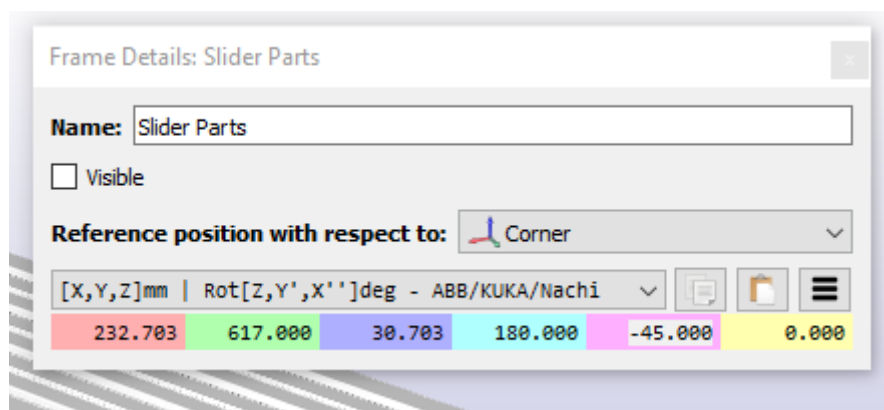
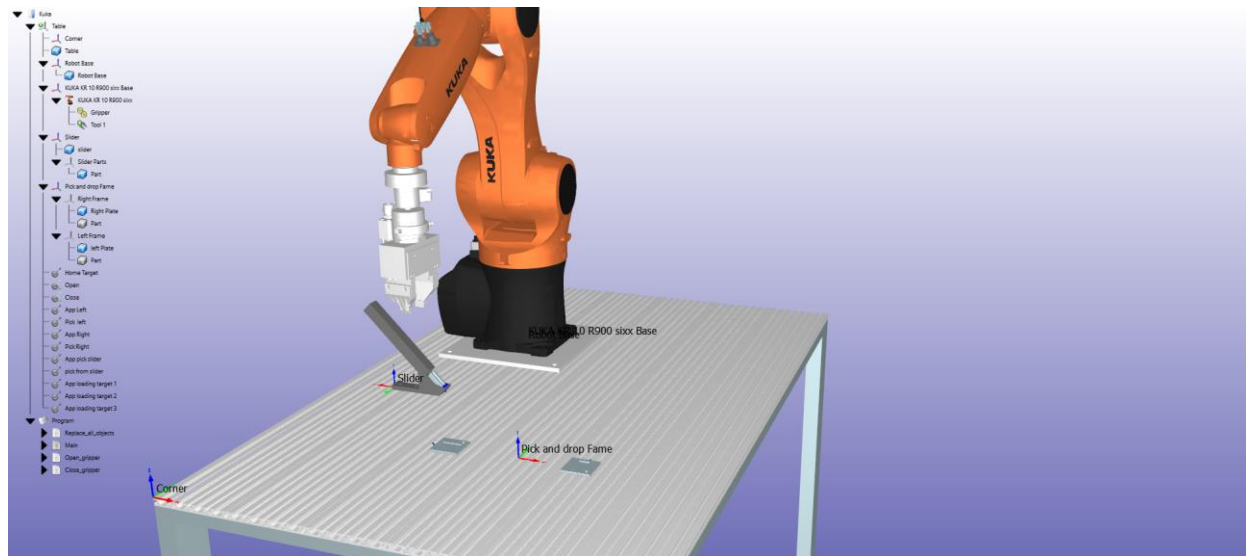

Figure 1: Frame details window used to change the distance of an object with respect to a reference frame.
Figure 2: How your workspace should look like.
- Upload the "Table.sld" part and define a reference frame for it, see Figure 2.
- Load all objects with the right frame as in Figure 2 and position it by double-clicking on it. Change the reference frame to corner frame "Figure 1", then change the dimensions according to Table 1.